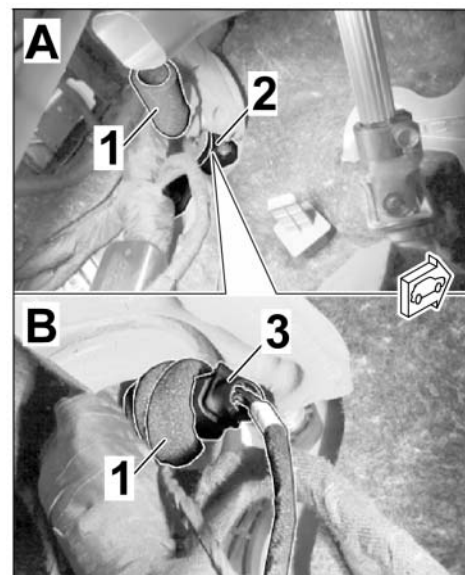

Figure 13
- 3.1.1 Expose the connection point (preparation = socket connector, 6-pin) in the passenger compartment of the vehicle, area of bulkhead grommet, A-pillar left (⇒ Figure 13 -LHD vehicle -).
- 3.1.3 Establish a connection between the plug connection preparation and the wire harness for the exhaust flaps (6-pin) ⇒ Figure 13 -RHD vehicle -.